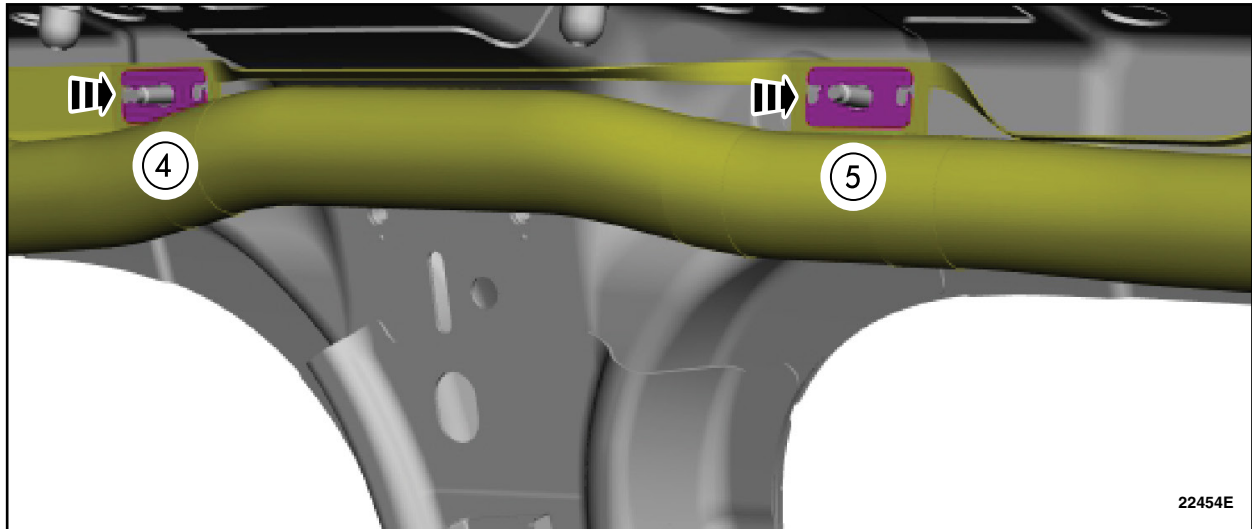

FIGURE 26
28. Attach the *new* side curtain airbag to the hangers *in the sequence shown*. See Figure 26.